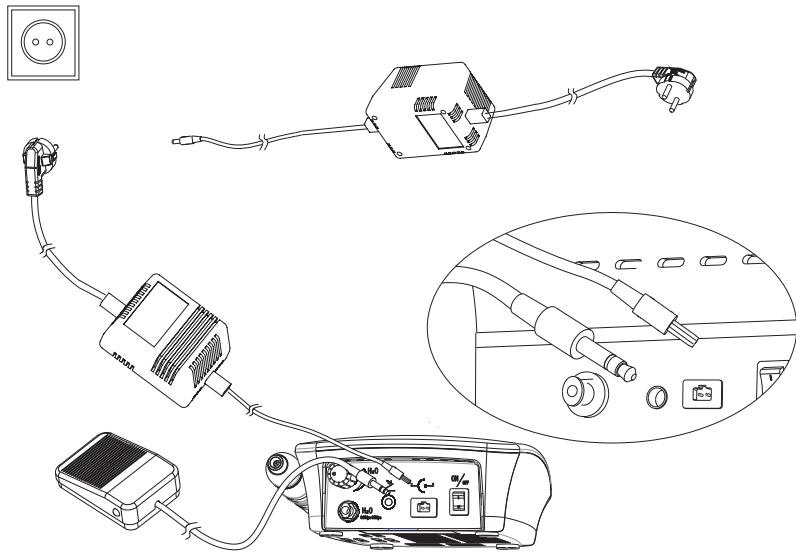

Figure 2
- 3) Insert the foot switch plug into the foot switch socket (as shown in Figure 2)
- 6) keep the main unit power switch in the off state, then connect the power supply output terminal to the main unit, and then connect the power supply input terminal to the electric supply (as shown in Fig. 2).